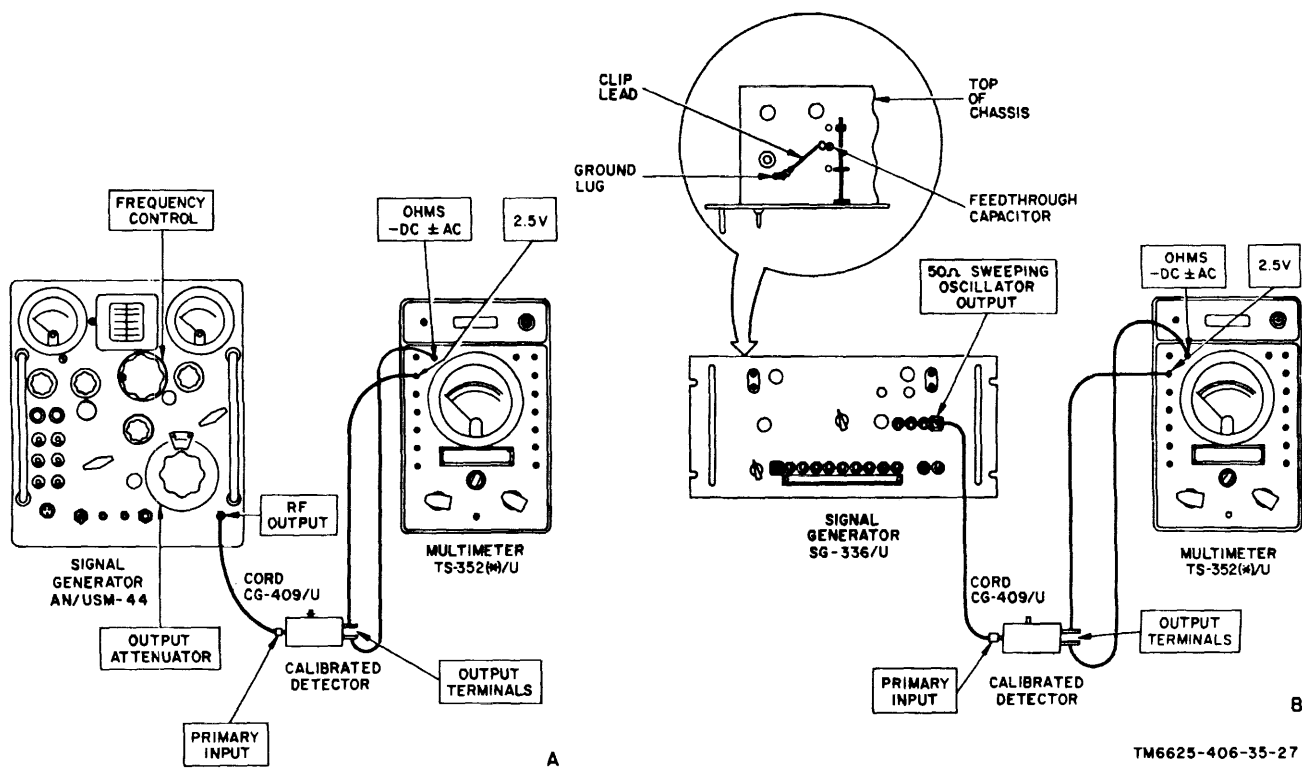

Figure 22. Output amplitude test connections.
- (5) Disconnect the cw signal generator, and connect the 50 $\Omega$  SWEEPING OSCILLATOR OUTPUT connector to the primary input connector of the calibrated detector (B, fig. 22). Observe the indication on the voltmeter. The voltmeter indication should be equal to or greater than that obtained in (3) above.
- (6) Set the CENTER FREQUENCY switch to 60 MC, and observe the voltmeter indication. The voltmeter indication
- (1) Multimeter TS-352(\*)/U.
- (2) Signal Generator AN/USM44.
*b. Test Connections and Conditions.* Connect the test equipment as shown in A, figure 22.